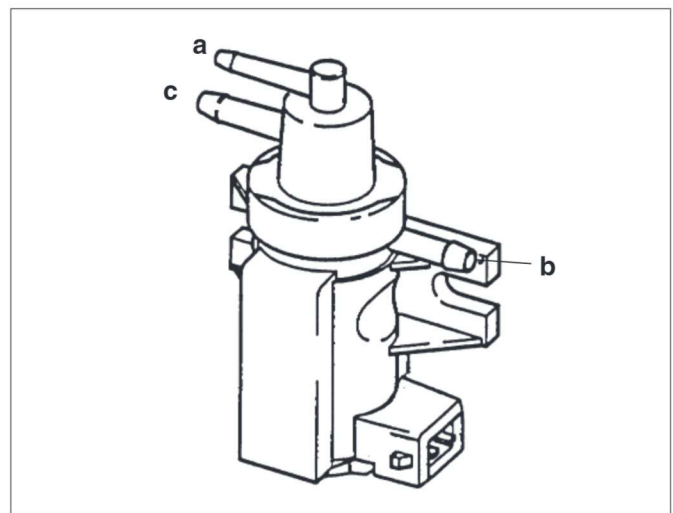

Fig. 3
4.2 Electropneumatic pressure converter (EPW), fig. 3